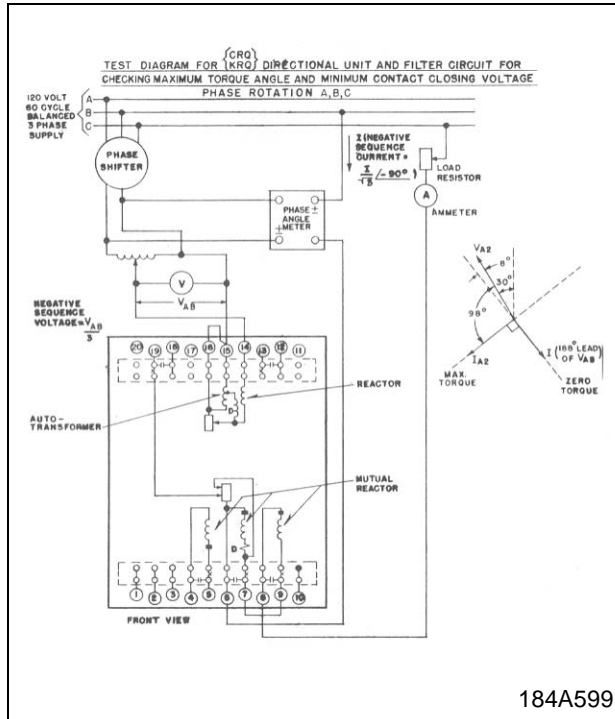

Figure 13: Test diagram for checking max. torque angle and minimum voltage for contact closure of direct units.
**Directional Unit (D)**
2. Sensitivity - Refer to the test diagram in fig. 13. Apply a single-phase voltage  $V_{12}$  equal to 0.57 volts (corresponds to a negative-sequence input voltage of .19 volts) and a single-phase current equal to 6.93 amperes as shown (corresponds to a negative sequence input current of 4 amperes). With a phase angle meter connected as shown, rotate the phase shifter until the current leads the voltage by  $188^\circ$ . This corresponds to the negative sequence component of current leading the negative sequence component of voltage by  $98^\circ$ . The directional unit contact should pick up within  $\pm 10\%$  of the above input voltage to the relay.
**Fault Detector (FD)** Either apply three phase negative sequence current equal to the scale setting or apply single phase current equal to N/~3 times the scale setting. These currents are applied to the relay terminals as shown in Fig. 13. The contacts should pick-up within 10% of these currents.
The spring is to be adjusted such that the contacts will close when the relay is energized with 0.57 volts and 6.93 amps at 188 ° (current leading voltage 1 considering the relay connected to the test circuit in Fig. 13).
Apply single phase current as shown in fig. 13. Set the micarta disc at some particular current setting on the scale plate. The contact should close within 10% of this value. The core screw at the top of the switch will affect the pickup (as well as dropout). If this is moved then the unit should be checked for erratic action at 30 amps A.C.